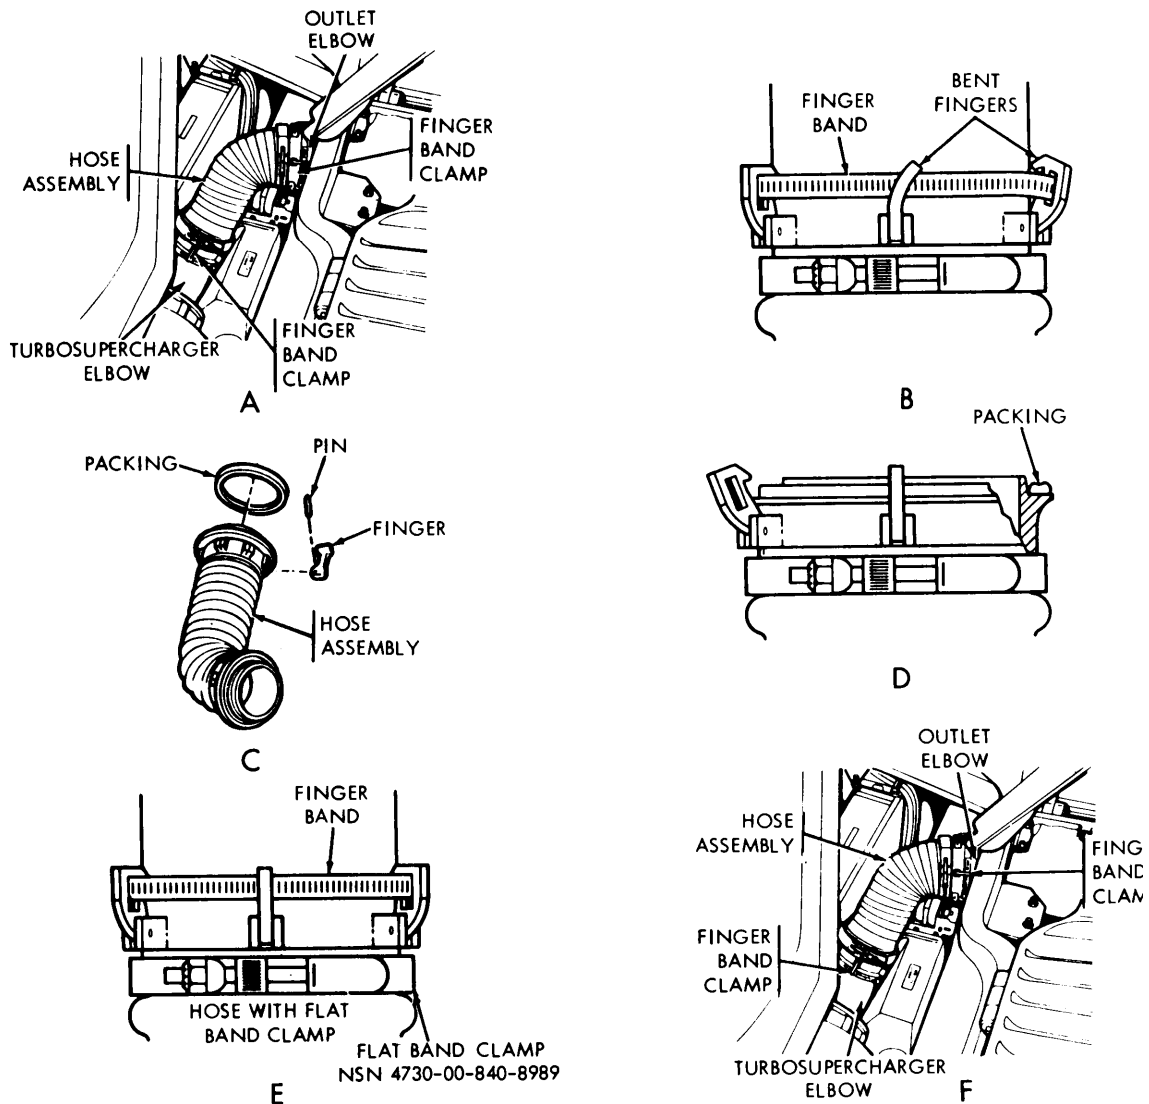

Figure 3-12. Air outlet hose replacement (finger band clamp).
- (c) Remove hose from elbow and flange (5).
(2) Outlet Hose (Finger Band Clamp) (Fig. 3-12).